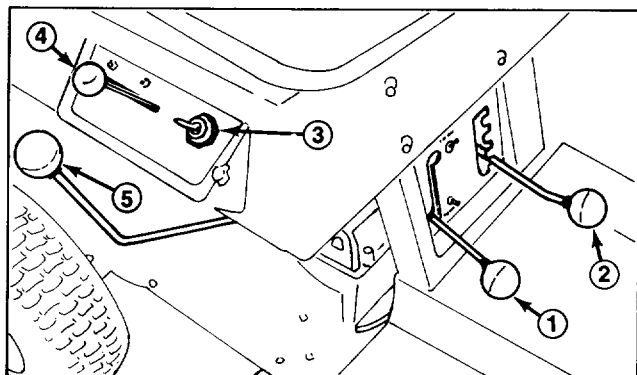

Figure 5
Gear Shift (Fig. 5) — Transmission has five forward speeds, neutral and reverse. Single lever, straight, in-line shifting located on right side of operator. An interlock switch, which prevents engine from being started when transmission is in gear, is mounted on top of transmission.
Blade Control (Fig. 5) — Blade control engages and disengages the cutter blade. An interlock switch
Throttle Control (Fig. 5) — Throttle control connects to and operates carburetor-mounted throttle and choke. Control has three positions: SLOW, FAST and CHOKE.
Height-of-Cut (Fig. 5) — Height-of-cut control varies the cutting height from 1 1/2 to 3 1/2 inches in five increments.
2. Move gear shift into neutral and blade control into DISENGAGE detent (Fig. 5)
3. Move throttle control to CHOKE position (Fig. 5) when starting a cold engine. However, a hot engine requires no choking; move throttle between FAST and SLOW for starting.
4. Rotate ignition key (Fig. 5) to START position. When engine starts, release the key and move throttle between FAST and SLOW if choke was used for starting.
2. Move gear shift into neutral and blade control into DISENGAGE detent (Fig. 5).
4. Rotate ignition key (Fig. 5) to ON position. Stand to left side of rider, pull recoil starter handle out until
1. Move blade control into DISENGAGE detent (Fig. 5).
2. Move height-of-cut control (Fig. 5) into desired setting.